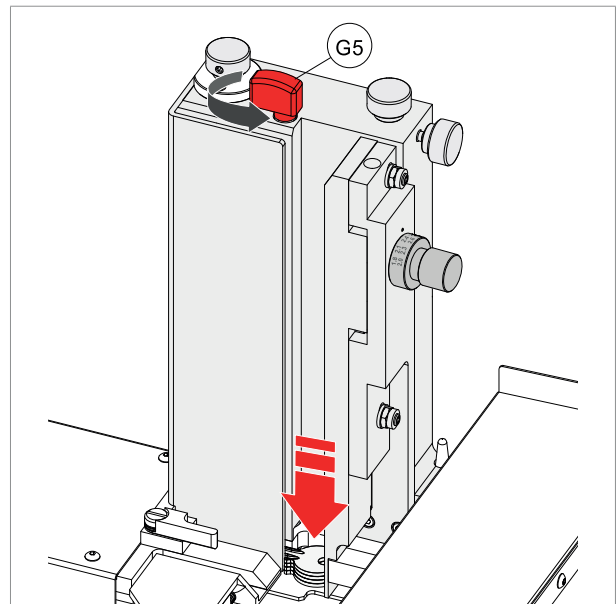

Fig. 121
- 4) Rotate the lever (G5) 90° to let the keys drop down (Fig. 121).